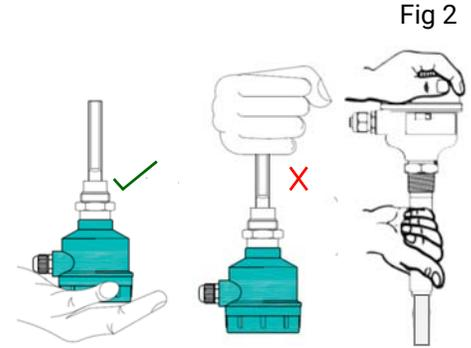

Fig 2
- Do not hold the switch by its fork. **Hold it by its enclosure.** (Fig 2)